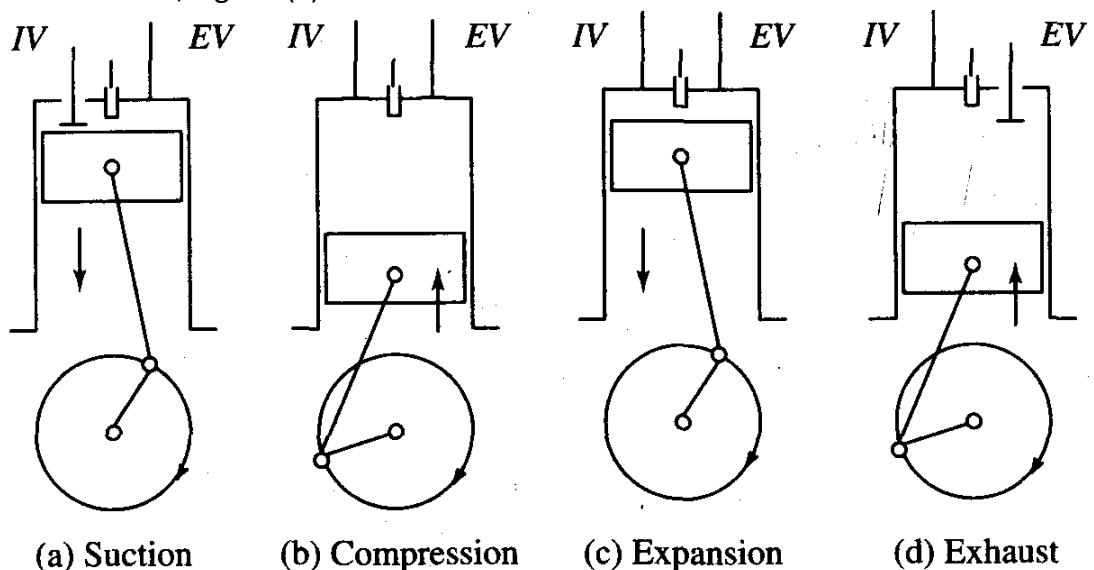
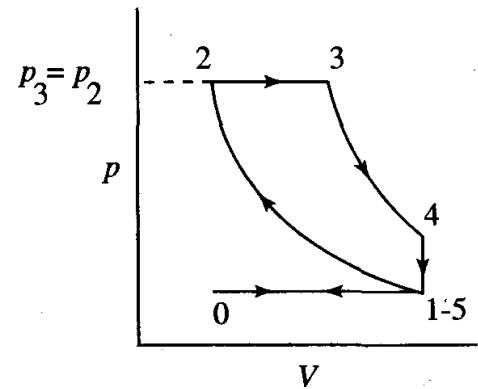

Fig. 1.6 Cycle of operation of CI engine
Fig. 1.7 Ideal p-V diagram for a four stroke CI engine
- The ideal sequence of operations for the four-stroke CI engine as shown in Fig. 1.6 is as follows:
a) **Suction Stroke:** In the suction stroke piston moves from TDC to BDC. Air alone is inducted during the suction stroke. During this stroke inlet valve is open and exhaust valve is closed, Fig.1.6 (a).
b) **Compression Stroke:** In this stroke piston moves from BDC to TDC. Air inducted during the suction stroke is compressed into the clearance volume. Both valves remain closed during this stroke, Fig. 1.6 (b).
c) **Expansion Stroke:** Fuel injection starts nearly at the end of the compression stroke. The rate of injection is such that combustion maintains the pressure constant in spite of the piston movement on its expansion stroke increasing the volume. Heat is assumed to have been added at constant pressure. After the injection of fuel is completed (i.e. after cut-off) the products of combustion expand. Both the valves remain closed during the expansion stroke, Fig. 1.6(c).
d) **Exhaust Stroke:** The piston travelling from BDC to TDC pushes out the products of combustion. The exhaust valve is open and the intake valve is closed during this stroke, Fig. 1.6 (d). The ideal p - V diagram is shown in Fig. 1.7.